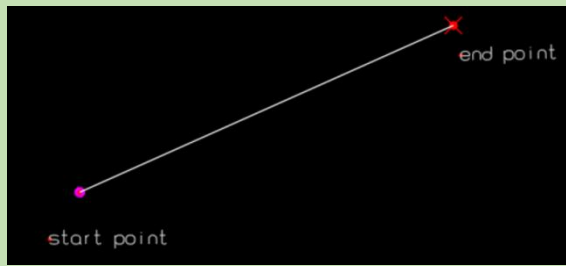

Figure4-11
1.Click the left mouse button on a blank space or a point to determine the starting end of the straight line (as shown in Figure 4-11).
2.Click the left mouse button again on a blank space or a point to determine the end of the straight line (as shown in Figure 4-11).